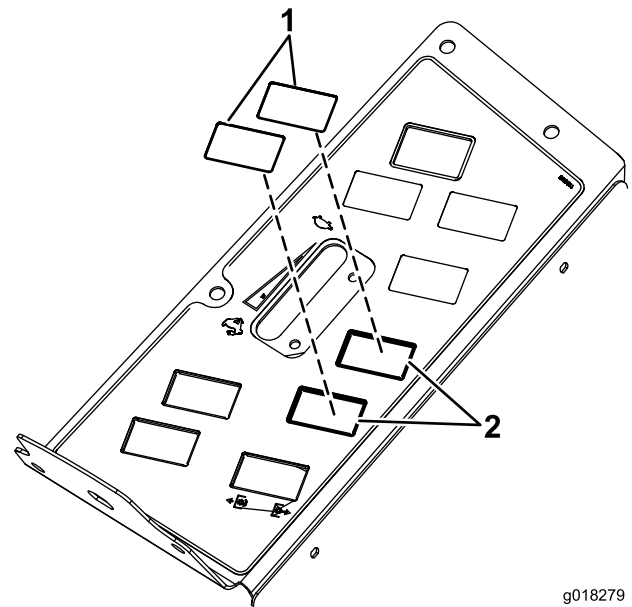

Figure 2
2. Remove the two knock out plugs indicated in Figure 2.